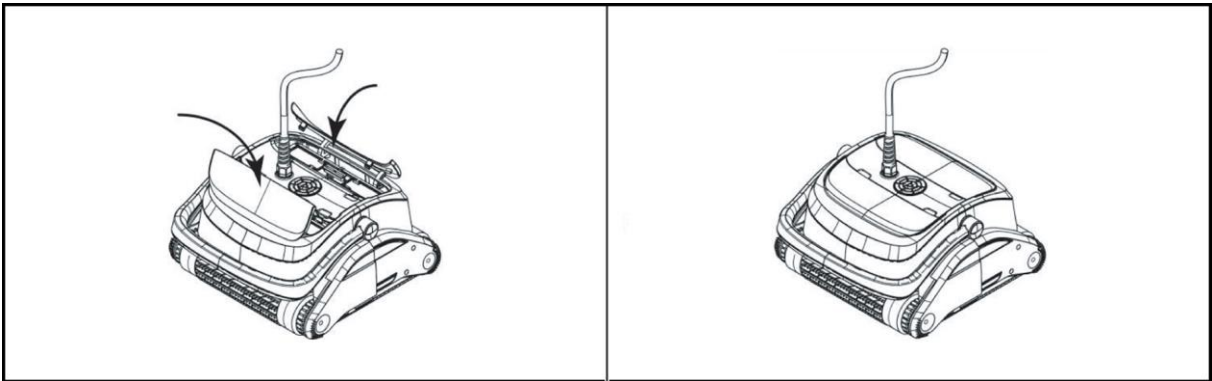

Fig. 7
- Assemble the device in the reverse order to ready it for use again (Fig. 7).